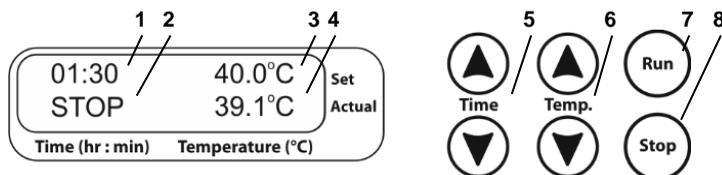
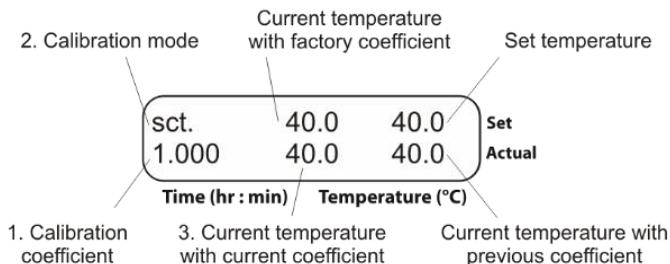
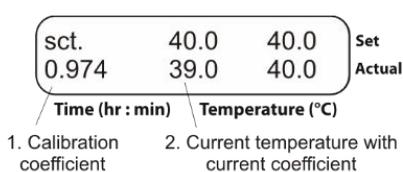

Figure 1. Control panel
Figure 2. Display in calibration mode
Figure 3. Changing the coefficient
- 5.3. **Temperature setting.** Use the ▼ and ▲ **Temp.** keys (fig. 1/6) to set the required temperature. Pressing the key for more than 2 s makes values change faster. Set temperature is displayed in the upper line of the display (fig. 1/3)
- 5.4. The heat block starts the heating. The actual temperature will be shown in the lower line of the display (fig. 1/4).
Use the ▼ and ▲ **Time** keys (fig. 1/5) to set the required sample incubation time in hours and minutes (hh:mm). Pressing the key for more than 2 s makes values change faster. Set time is displayed in the upper line of the display (fig. 1/1)
- 5.7. Press the **Run** key (fig. 1/7) to start the timer. The elapsed time will be indicated in the lower line of the display (fig. 1/2). After the set time interval elapses, unit begins beeping and a blinking STOP indication shows on the display. Press the **Stop** key (fig. 1/8) to stop the signal.
Caution! Stopped timer does not stop the heating / temperature maintenance process. The heating can be stopped by lowering the temperature below 25°C using the ▼ **Temp** key (OFF indication shows on the display, fig.1/3).
- 6.2. To change the calibration coefficient, hold the **Stop** key (fig. 1/8) pressed for more than 8 s to activate calibration mode. The calibration coefficient appears on the display (fig. 2/1).
- 6.3. **Restoring factory settings.** Set 1.000 value using the ▲ and ▼ **Temp** keys (fig. 1/6) as shown on fig. 2/1 to restore the factory settings. Press the **Run** key (fig. 1/7) once to save the changes and exit the calibration mode.
6.4.4. Let us assume that the readings of independent sensor is 39°C, but the display's actual temperature is 40°C (fig. 1/4). Then it is necessary to add 1°C correction.
6.4.5. Hold **Stop** key (fig. 1/8) pressed for more than 8 s to activate calibration mode. The following parameters will be shown on the display (fig. 2).
6.4.6. Using the **Temp ▲** and **▼** keys (fig. 1/6), change the calibration coefficient (fig. 3/1) so that the new temperature value (fig. 3/2) corresponds to the independent sensor temperature. In our example, the calibration coefficient will be 0.974.
6.4.7. After finishing the calibration, press the **Run** key (fig. 1/7) once to save the changes and exit the calibration mode.